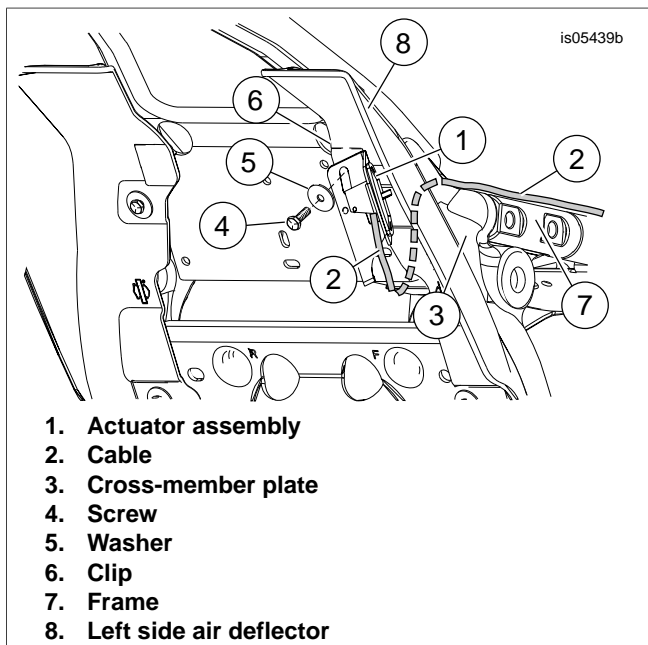

Figure 7. Installing Actuator Assembly with Mid-Frame Air Deflector
Models with Mid-Frame Air Deflector See Figure 7. Slide the flat side of the actuator assembly (1) behind the spark plug wires. Verify the hook/bent tab on the bracket engages with the cross-member plate. Install screw (4) and washer (5). Tighten screw to 25-35 **in-lbs** (2.8-3.9 Nm).